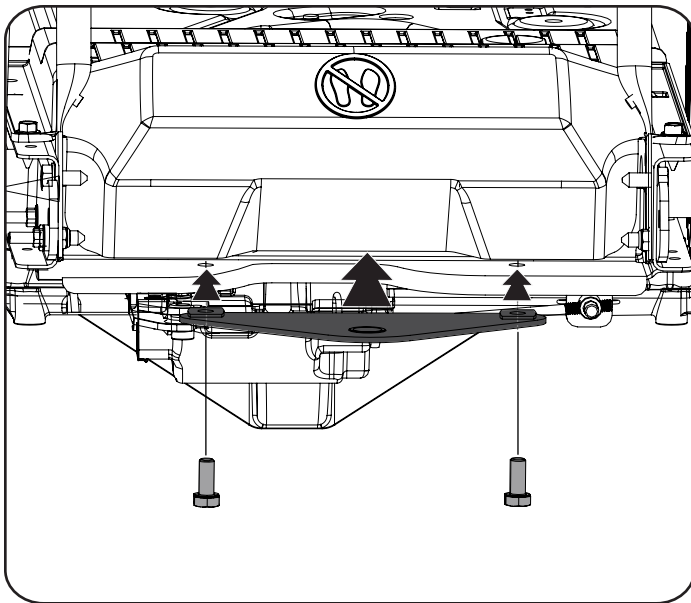

Figure 15
1. Slide the hitch plate in between the frame and the rear cover on your rider. See Figure 15.
2. When the holes in the hitch plate and the frame are aligned, install the two hex screws from the manual bag up through the frame and into the hitch plate. See Figure 15.